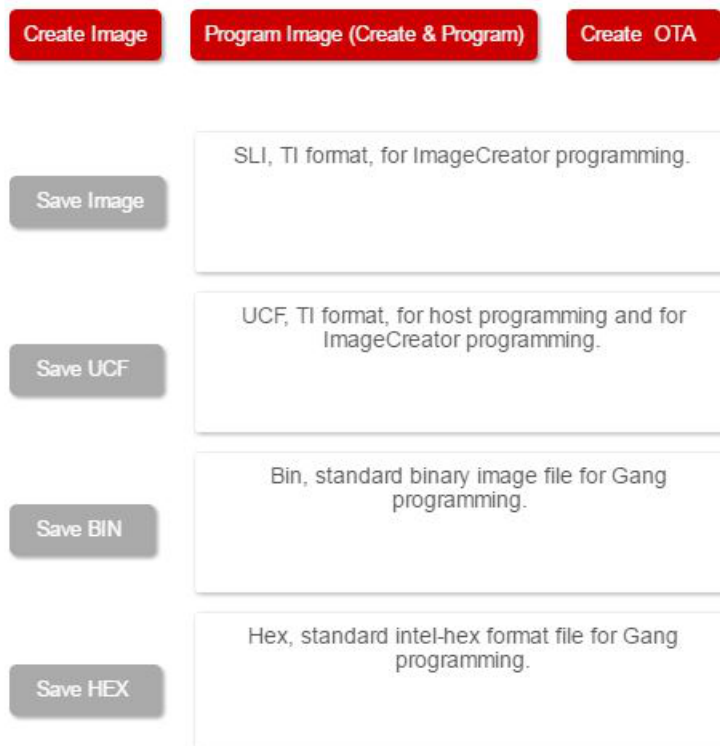

Figure 2-15. Generate Image
10. Click on Program Image (Create & Program), as shown in Figure 2-15. This step might take a minute.